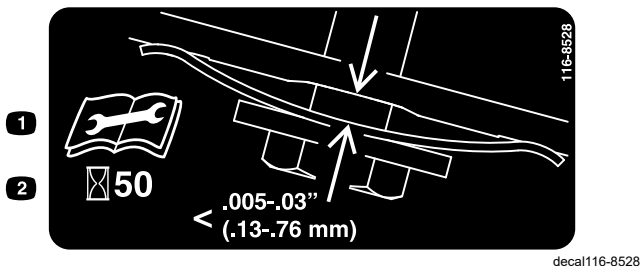

Figure 33
- Hold a feeler gauge set between 0.005 and 0.03 inches (0.13 and 0.76 mm) against the wall and slide it down behind the belt tension spring; refer to Figure 33.